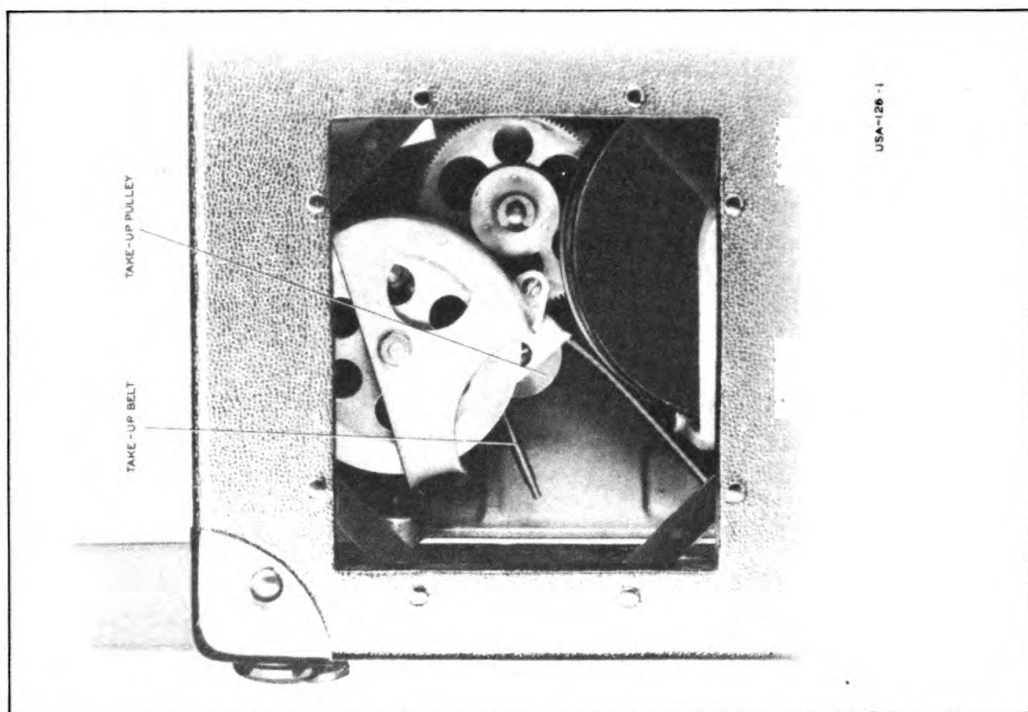

Figure 20—Takeup Belt Threaded Through Pulley
a. Figures 20 and 21 show the take-up and rewind belts respectively being threaded through the take-up-rewind mechanism. Note the cover plate removed. Also note that the ends of the belts are taken apart for installation.